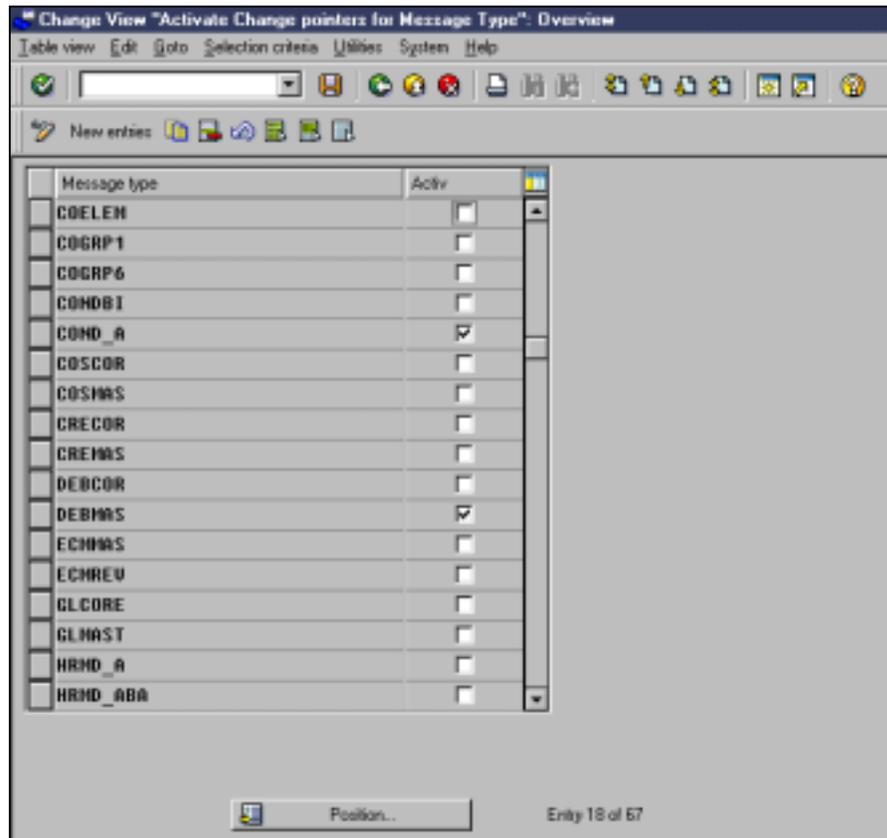

Figure 65: Enabling change pointers for message types
1. Go to transaction BD50 and enable the change pointers (for example, DEBMA and COND_A), as shown in Figure 65.